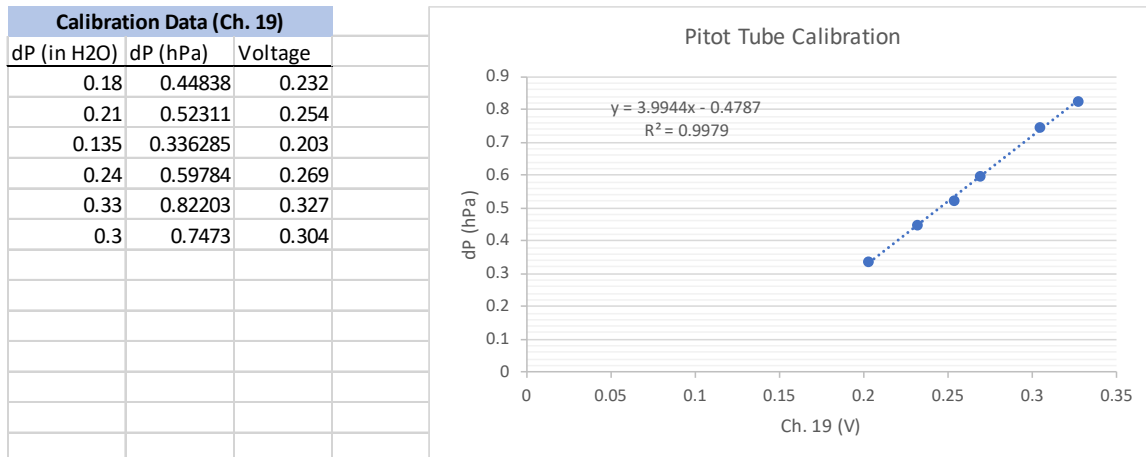

Figure C4: An example work-up of the pitot tube calibration.
9. Calculate the linear fit equation between voltage and hPa. An example calibration is shown in **Fig. C4**, with the dP values shown in the original units of in. H₂O, the values converted to units of hPa, and the corresponding voltages. The plot in **Fig. C4** shows the dP values vs. the recorded voltages and the best fit line ($y = 3.9944x - 0.4787$).